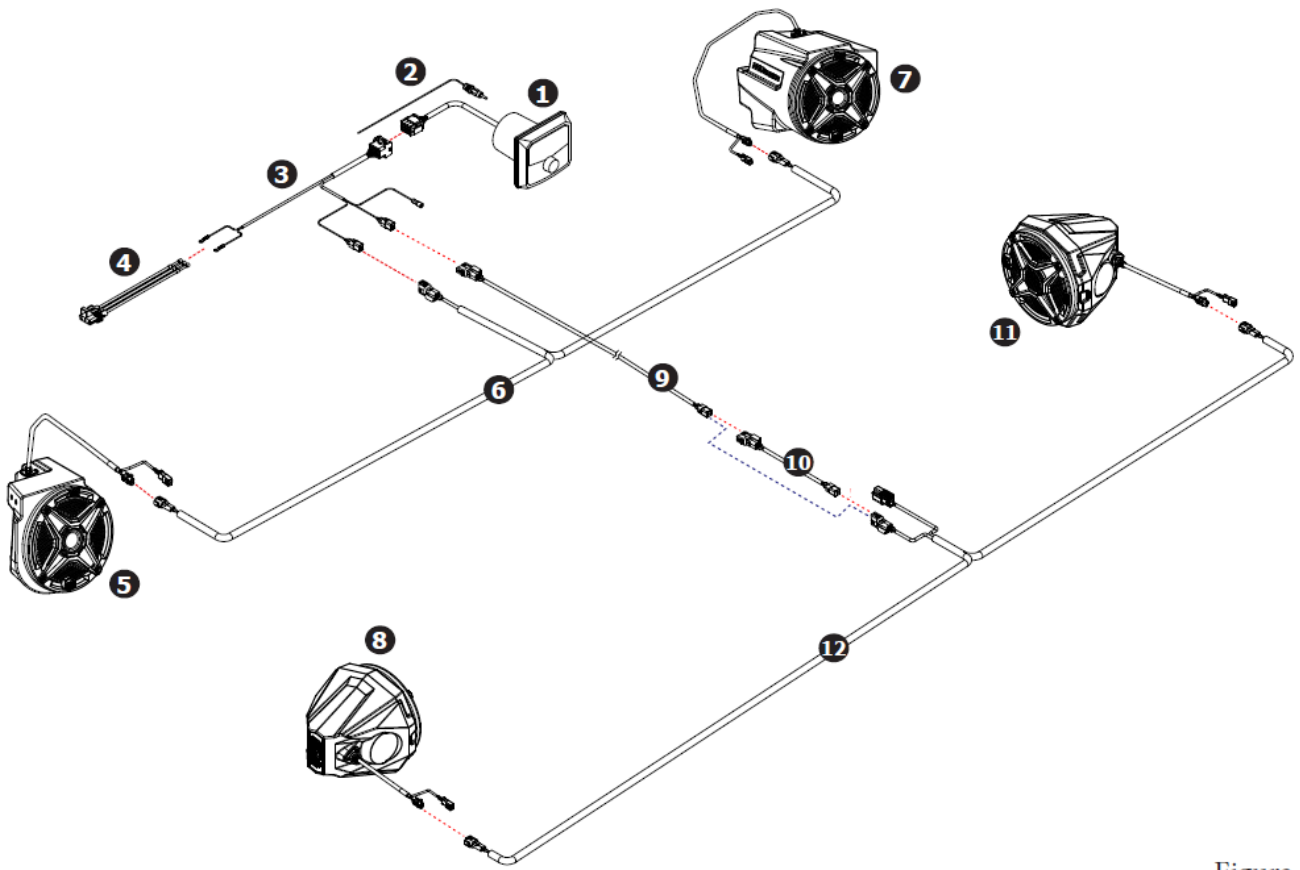

Figure 1
- Figure 1 is designed to show the installer a reference overview of the complete 4 speaker wiring diagram. Each installation section will have its own detailed wiring diagram.